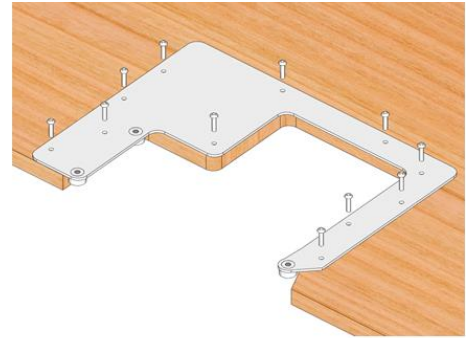

Fig 11
- Use included screws to install the assembly fixture (Fig. 11)